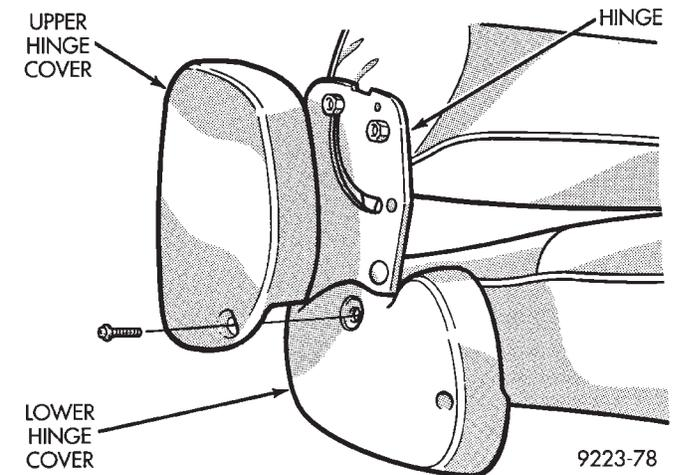
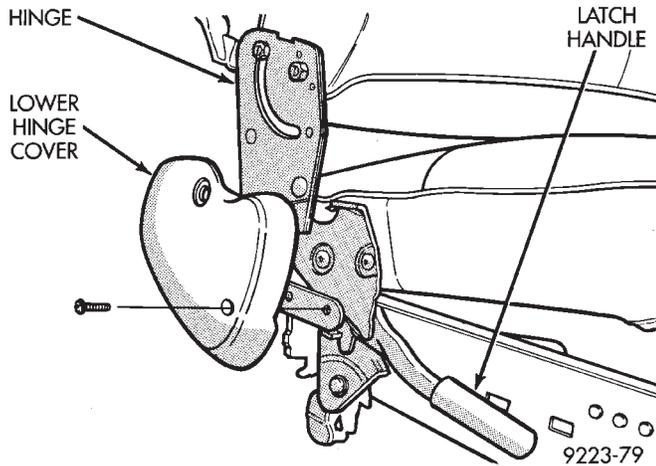

Fig. 37 Upper Hinge Cover
Fig. 38 Lower Hinge Cover
- (1) If necessary, Remove seat from vehicle.
- (2) Remove screw holding upper hinge cover to seat back hinge.
- (3) Separate upper hinge cover from seat (Fig. 37).
- (4) Remove screw holding lower hinge cover to seat back hinge.
- (5) Separate lower hinge cover from seat (Fig. 38).